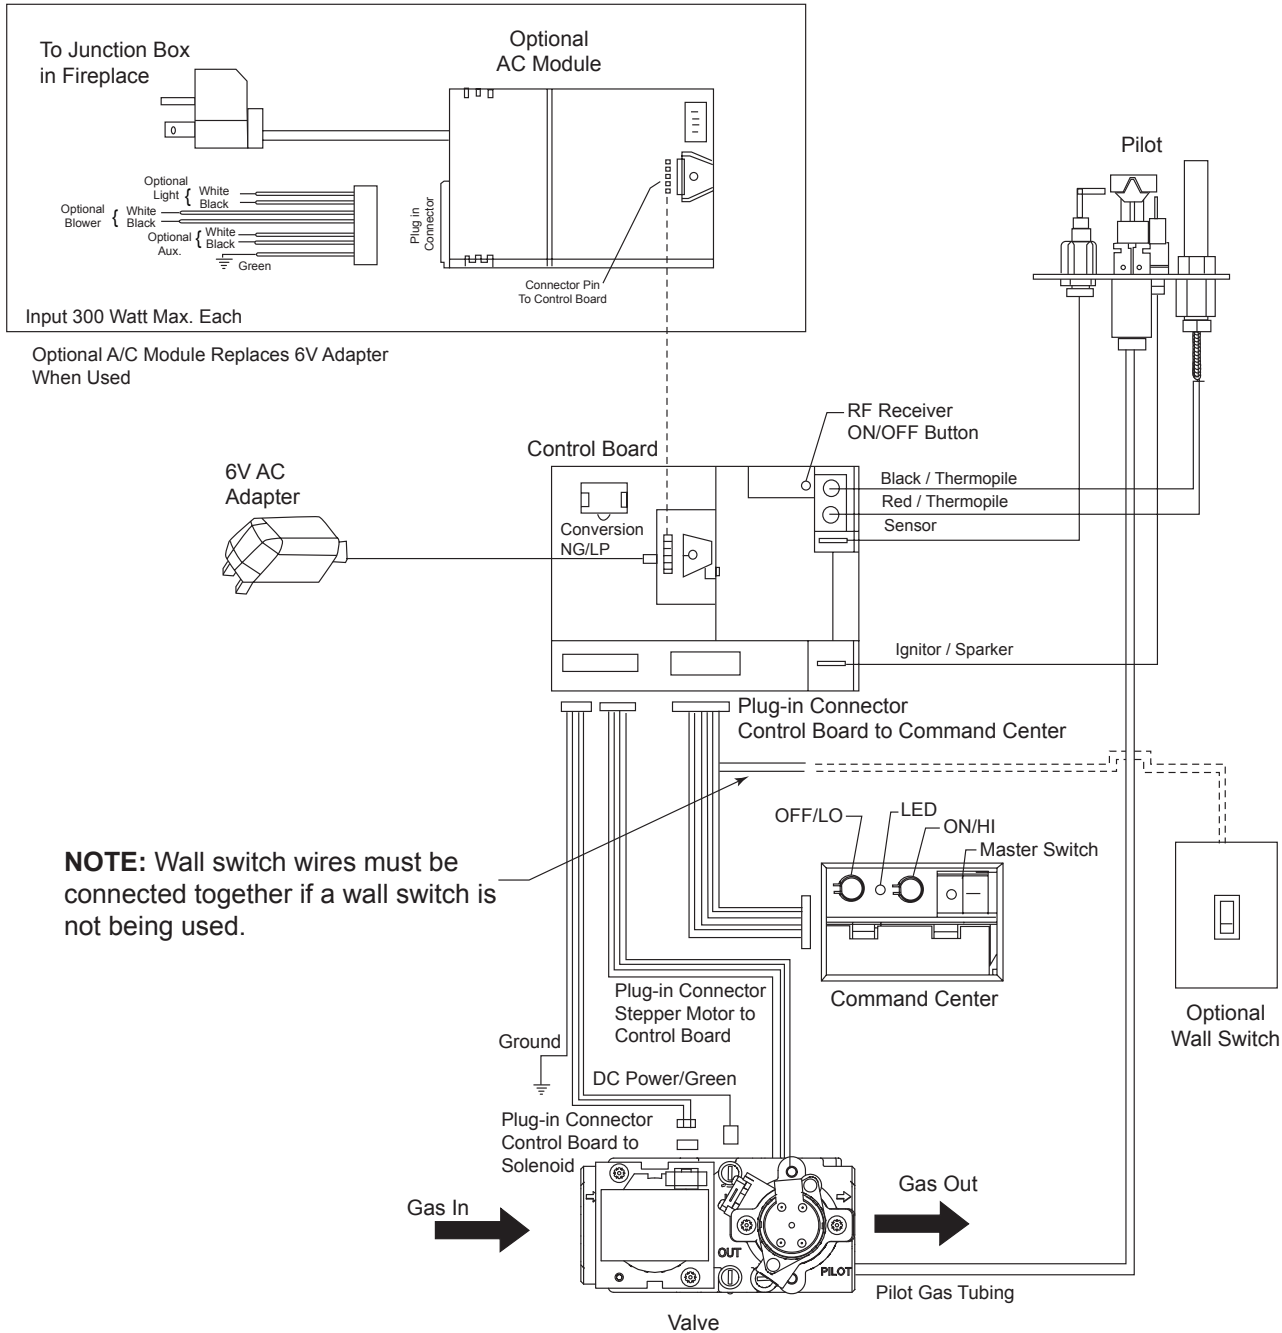

Figure 58 - Signature Command Wiring Diagram
The wall switch wire connection is located off the 2 ft. wire harness from the control box to the command center. *Figure 58*. The connection is labeled “Wall Switch”. Unplug the male and female connectors and connect the two (2) low voltage wires provided. Run wire to desired location on wall. Up to 50 ft. of 18 ga. wire may be used if necessary. Attach wires to wall switch. Mount the wall switch in to junction box and screw on cover.